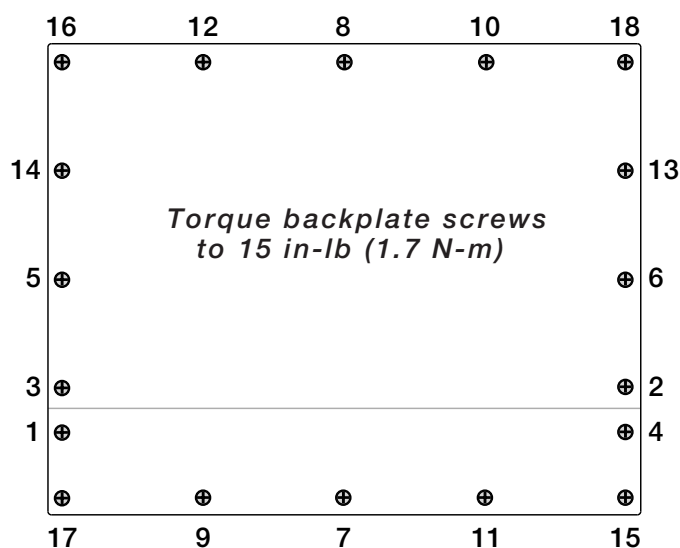

Figure 3-1. 920i Enclosure Backplate
3. Torque screws to 15 in-lb (1.7 N-m), using pattern shown in Figure 3-1, to prevent distorting the back plate gasket.
4. Re-install the backplate (Figure 3-1 on page 17).